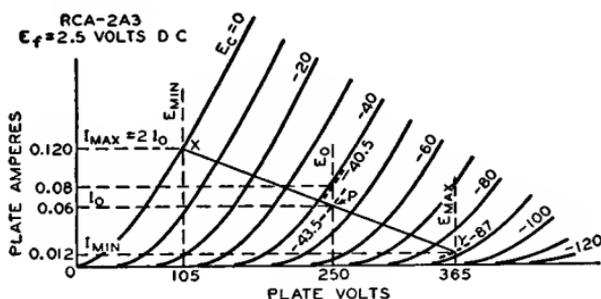

Fig. 21
Calculation of the **power output of a triode** used as a class A amplifier with either an output transformer or a choke having low dc resistance can be made without serious error from the plate family of curves by assuming a resistance load. The proper plate current, grid bias, optimum load resistance, and per-cent second-harmonic distortion can also be determined. The calculations are made graphically and are illustrated in Fig. 21 for given conditions. The procedure is as follows: (1) Locate the zero-signal bias point P by determining the zero-signal bias  $E_c$  from the formula:
**Example:** Determine the load resistance, power output, and distortion of a triode having an amplification factor of 4.2, a plate-dissipation rating of 15 watts, and plate characteristics curves as shown in Fig. 21. The tube is to be operated at 250 volts on the plate.